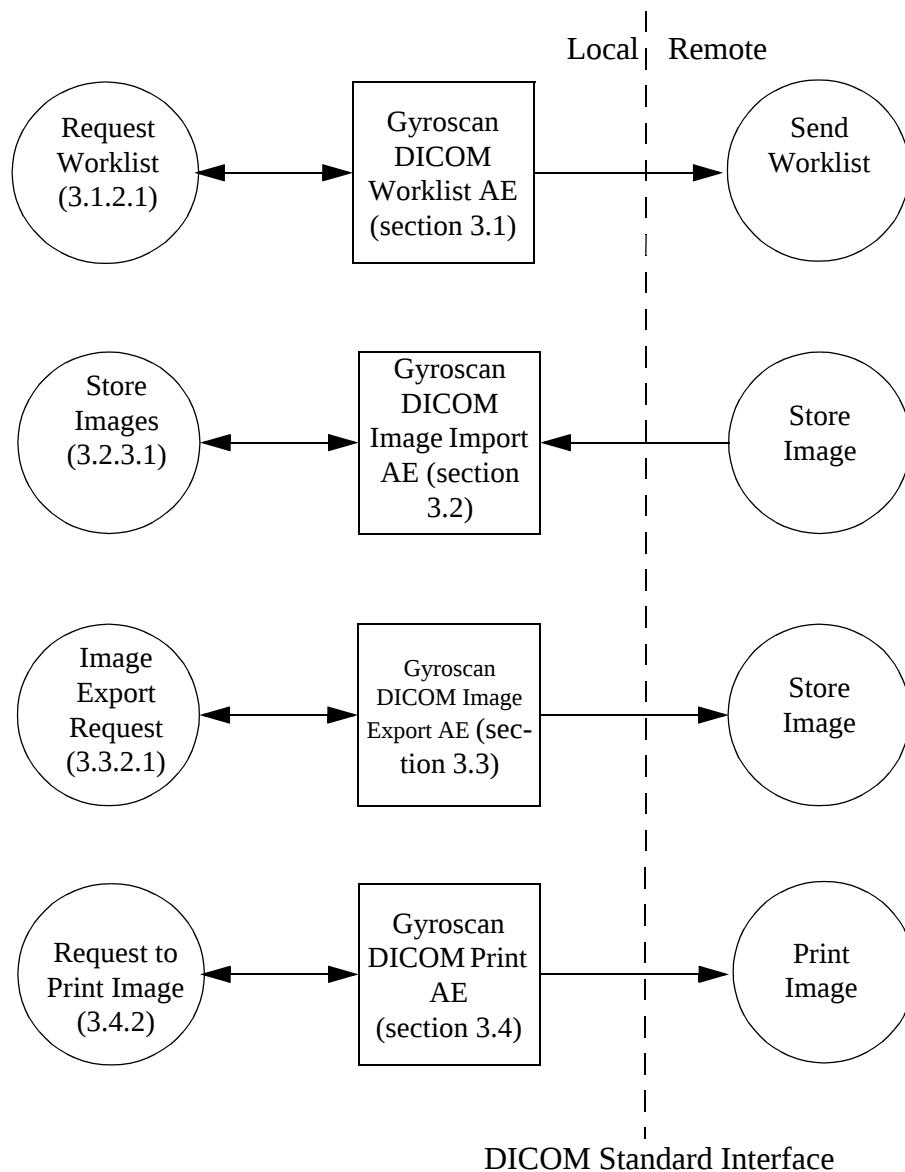

Figure 2-1: The Gyrosan DICOM Implementation Model
Gyrosan Intera is a system with four Application Entities (AE). The related Implementation Model is shown in Figure 2-1 on page 9